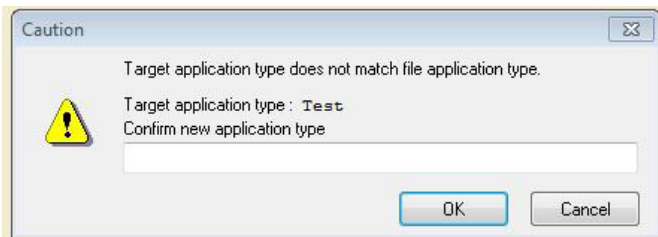

Figure 27. Application Type Screen
9. If prompted for application type enter "42003" and click "OK" button (Figure 27).